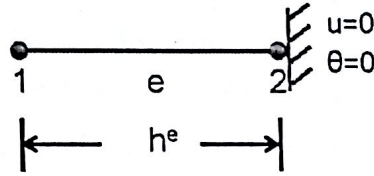

Figure 1. One element mesh. (2-node linear element).
- Q. 1** Q1 is based on class lectures on the Quasi-Static case for the Isothermal split of the thermoelasticity problem. The element stiffness matrix was developed for 1D linear shape functions using 1-point integration rule. A linear system was developed (in equation (44) of class lectures) that corresponds to the situation of zero Dirichlet BCs at the right node (node-2) of the one-element mesh in Figure 1.